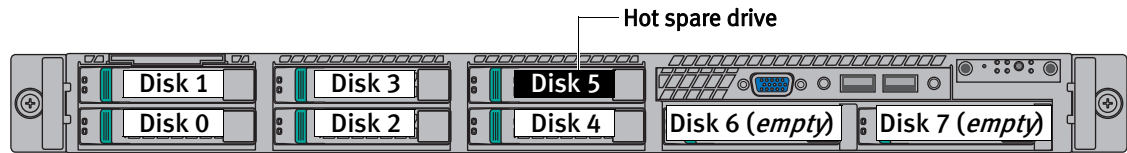

Figure 12 Master and DIA server drive slot numbering
Master, DIA, or Hadoop Compute server, 8 disk slots (slots 6 and 7 are empty)	Slot 5 (see Figure 12 on page 88)
8. The Copyback operation should begin automatically when you insert the replacement drive. (For details about Copyback, see “Hot spare drives and the Copyback operation” on page 86.) Wait for the Copyback operation to complete. The hot spare always occupies **slot 5** on a Master server (see Figure 12 on page 88).